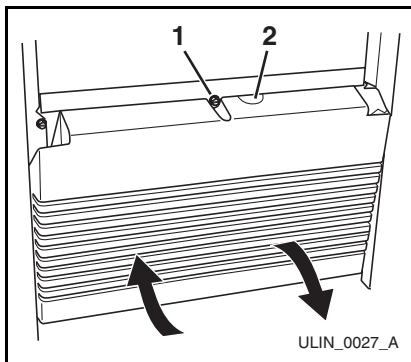

Figure 4
1. Remove the front grille (one screw) (**Figure 4, 1**).